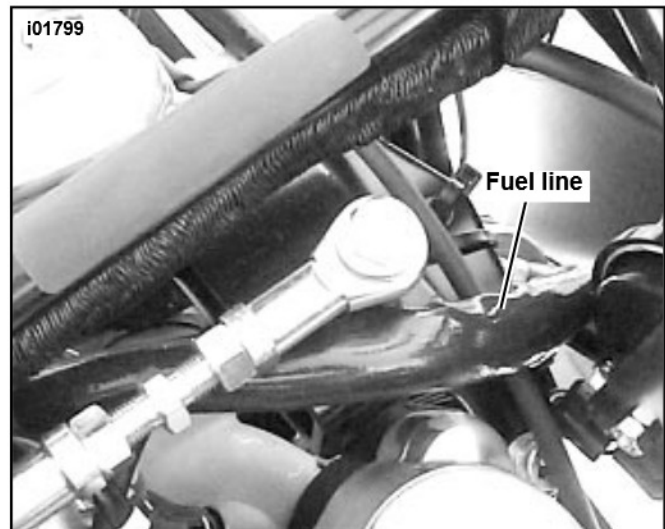

Figure 2. Fuel Line Routing
- See Figure 2. Cut a piece of bulk fuel line (Part No. 63521-95) to 10-1/2 in. Attach fuel line, with a hose clamp, to the fuel rail and tighten clamp. Slide the sheathing onto the hose and route hose as shown.
10. See Figure 2. Cut a piece of bulk fuel line (Part No. 63521-95) to 10-1/2 in. Attach fuel line, with a hose clamp, to the fuel rail and tighten clamp. Slide the sheathing onto the hose and route hose as shown.